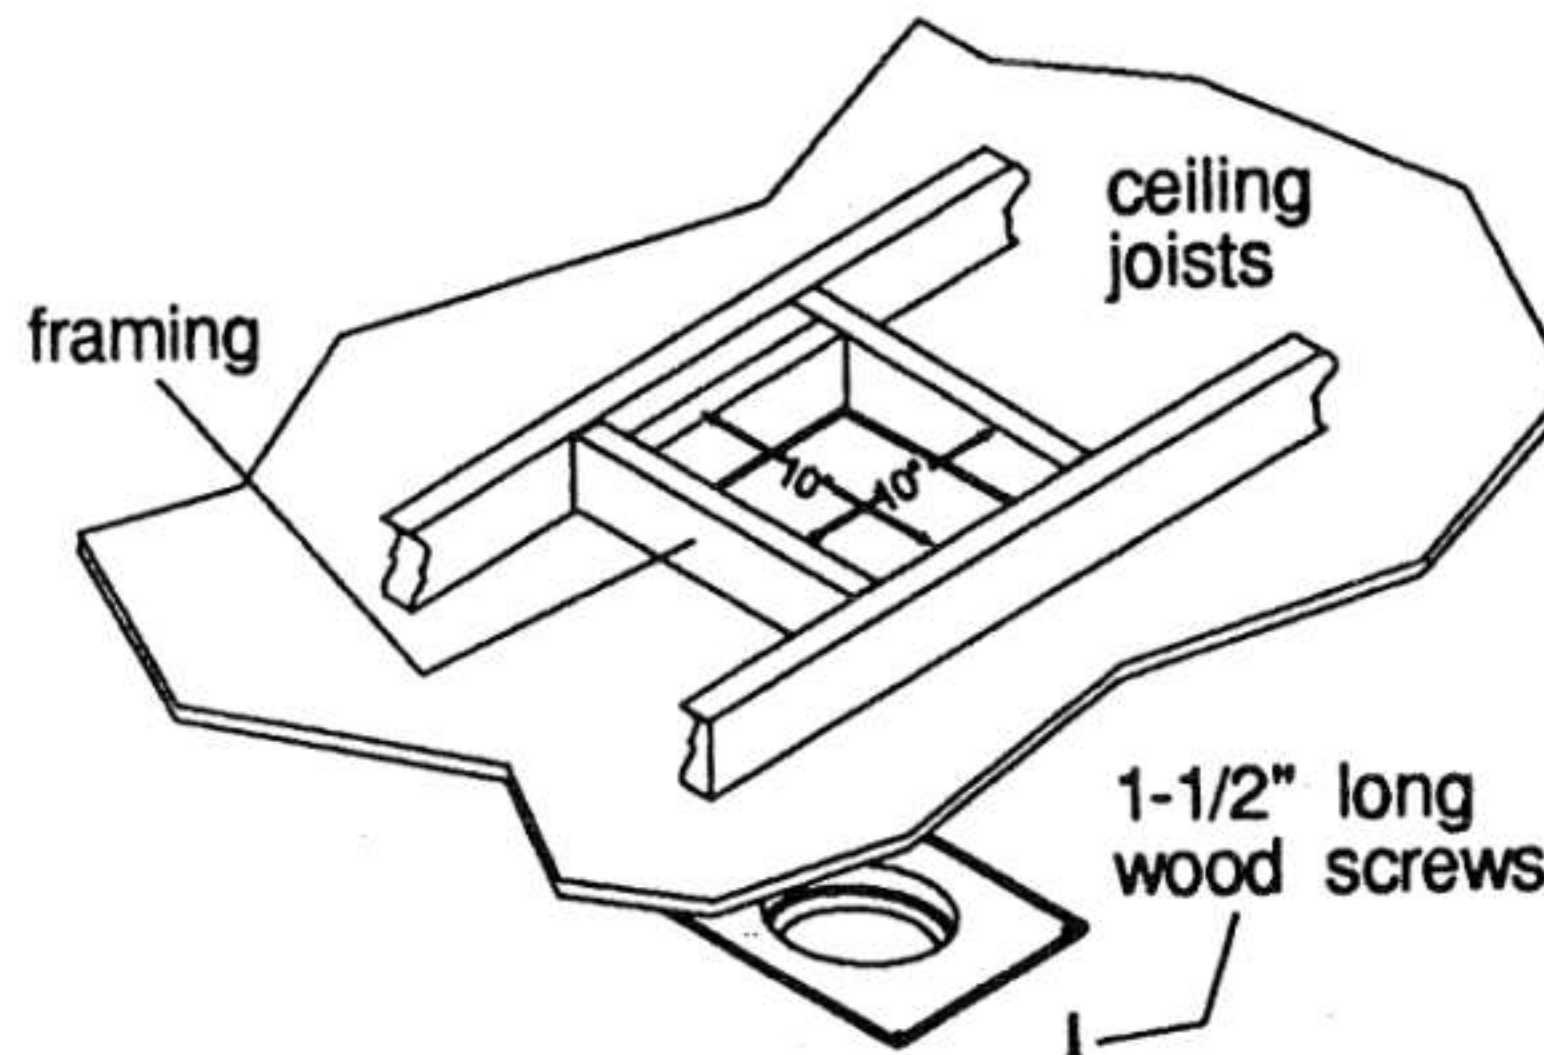
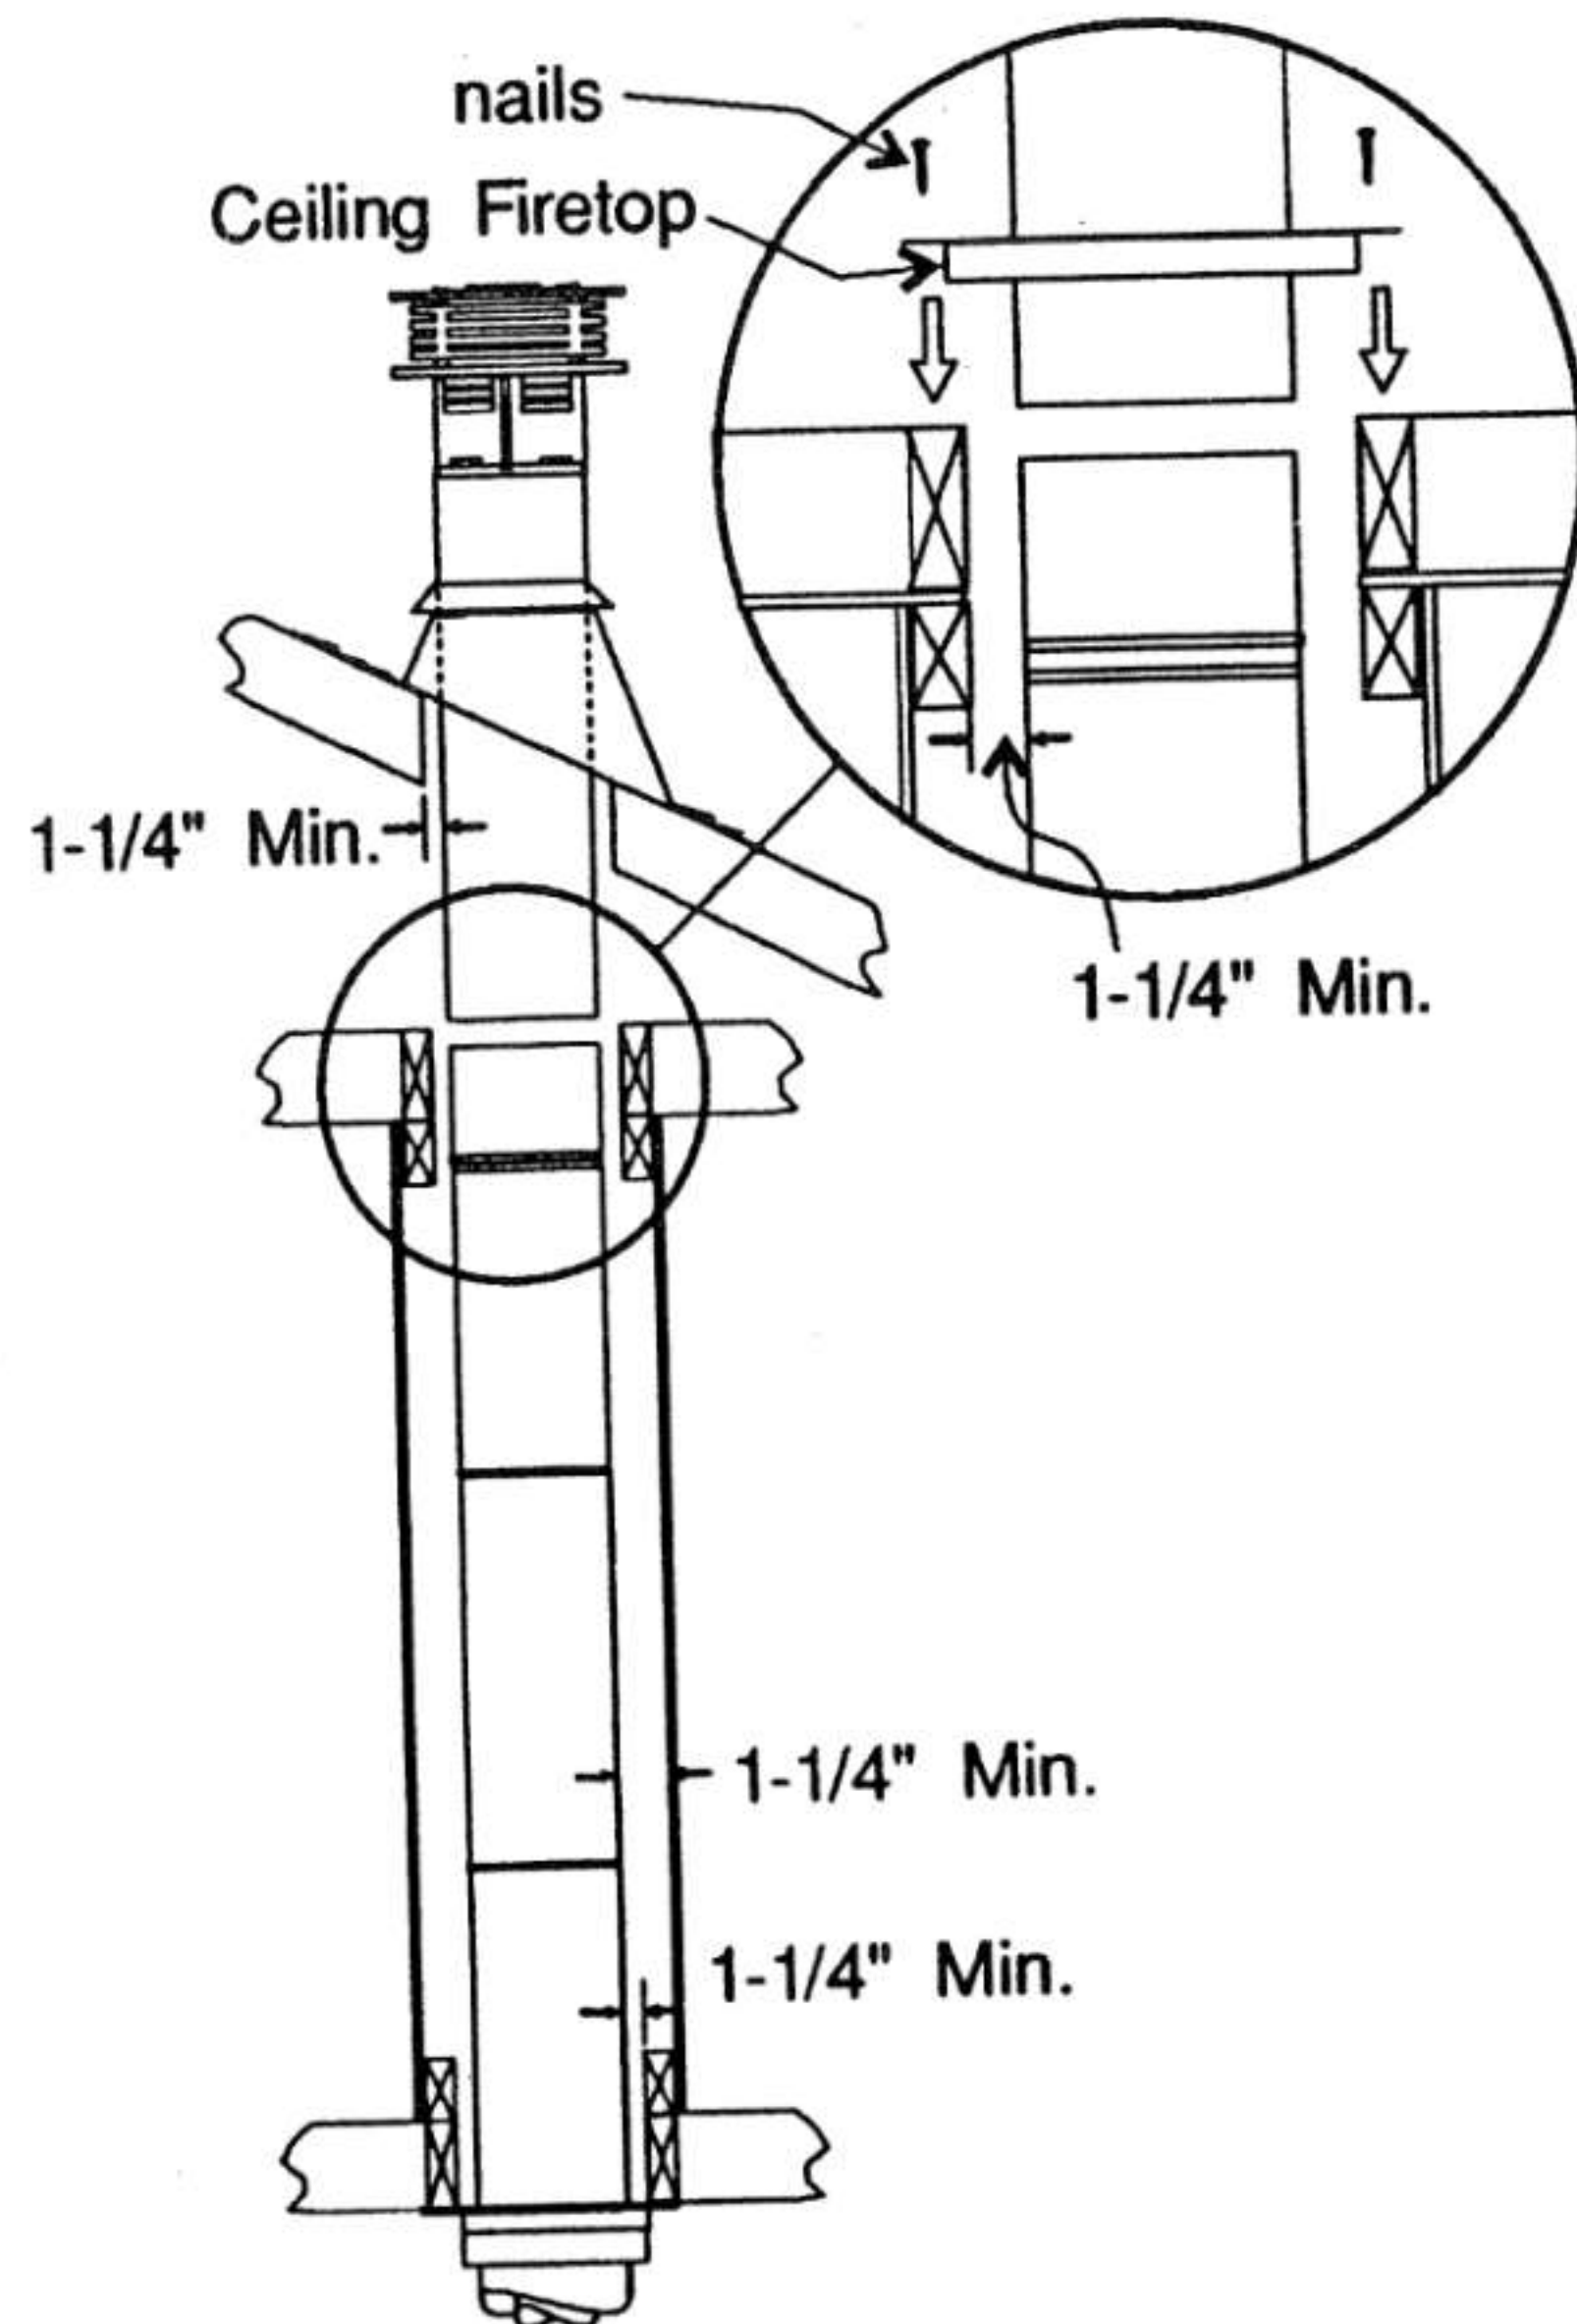

Fig. 8
Fig. 11
- 3) To install the Round Support Box/Wall Thimble in a flat ceiling, cut a 10 inch square hole in the ceiling centered on the hole drilled in Step 2). Frame the hole as shown in Fig. 8.
a) For multi-storey vertical installations, a Ceiling Firestop (Part# 946-552, Dura-Vent #963) is required at the second floor, and any subsequent floor. Fig. 11. The opening should be framed to 10 inch x 10 inch inside dimensions, in the same manner as shown in Fig. 8.